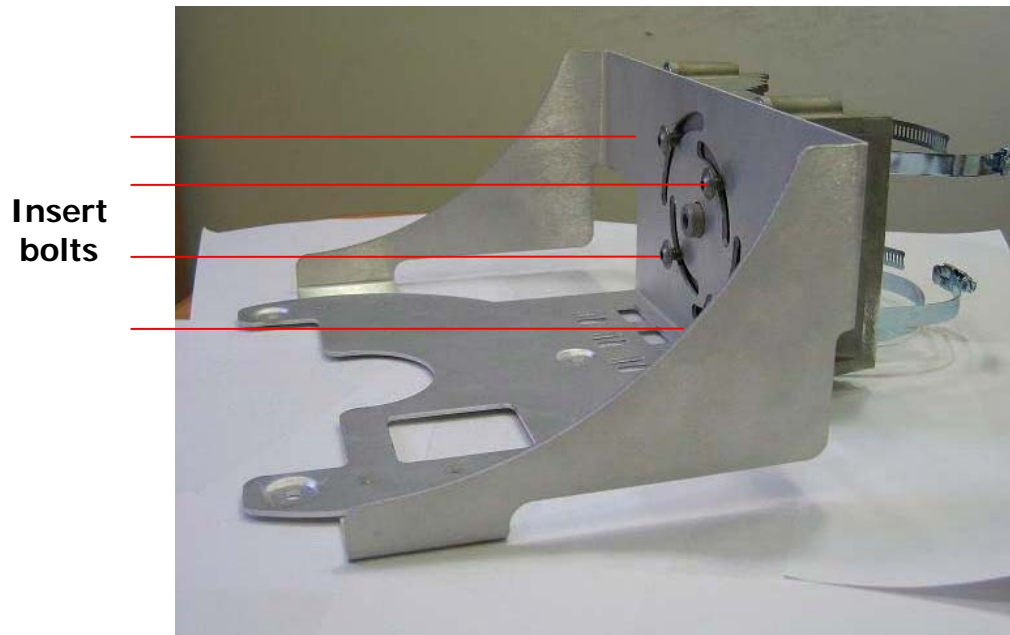

Figure 3.13 **Attaching the Tray to the Back Plate**
6. Attach the tray to the back plate as shown in Figure 3.13.